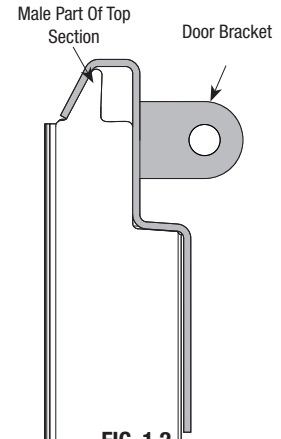
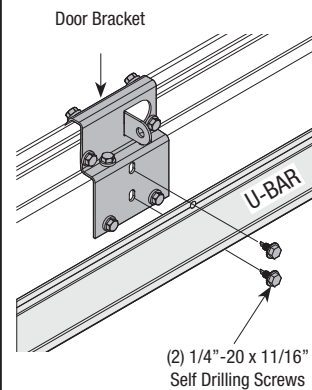

FIG. 1.2
FIG. 1.3
Position the door bracket until it seats on the male part of the section as shown in FIG 1.2. The door bracket must be centered and positioned on the top section so it bridges the transition point of the section thickness. Attach the door bracket using 1/4" - 14 x 5/8" self tapping screws as shown in FIG 1.4. Re-attach the u-bar using (2) 1/4" - 20 x 11/16" self drilling screws through the door bracket as shown in FIG 1.3. Finish re-attaching the u-bar using the self tapping screws removed previously.
Position the door bracket until it seats on the male part of the section as shown in FIG 1.2. The door bracket must be centered and positioned on the top section so it bridges the transition point of the section thickness. Attach the door bracket using 1/4" - 14 x 5/8" self tapping screws as shown in FIG 1.4.